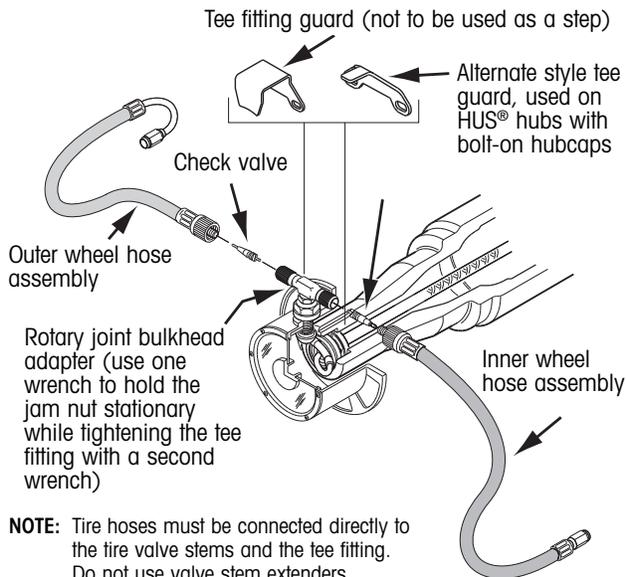

Figure 38. Tire removal and installation
- Turn vehicle off and disconnect the tire hose(s) at the tee (or elbow) on the hubcap (figure 38).
- On dual-wheel configurations, observe and record the orientation of the wheel to the hub before removal of the wheel (clock A, B, or C. Refer to figure 38).
- Remove and reinstall the wheel. Take care not to damage the hubcap fitting. Make sure the wheel is properly oriented to the hub as indicated in figure 38.